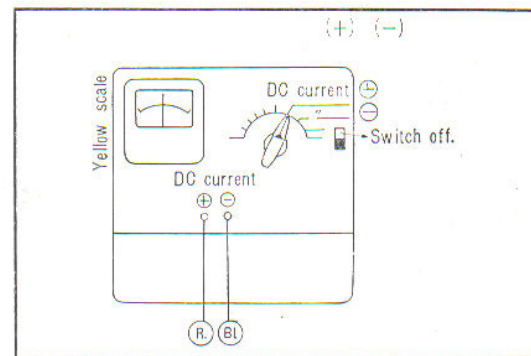

Fig. 5.103 DC current measuring
- (1) Turning the tester switch to "DC Current (+)", when the engine is started, if the meter swings to the positive direction, it indicates the charging value, and if the swing is to the negative side, it indicates discharging.
- (2) In the same manner as above, when the engine is started, if the meter swings to the positive direction, it indicates discharging, and if it swings in the opposite direction, it indicates charging. Measurement should be performed by switching the connection so that the meter swings in the positive direction. (Fig. 5.103)